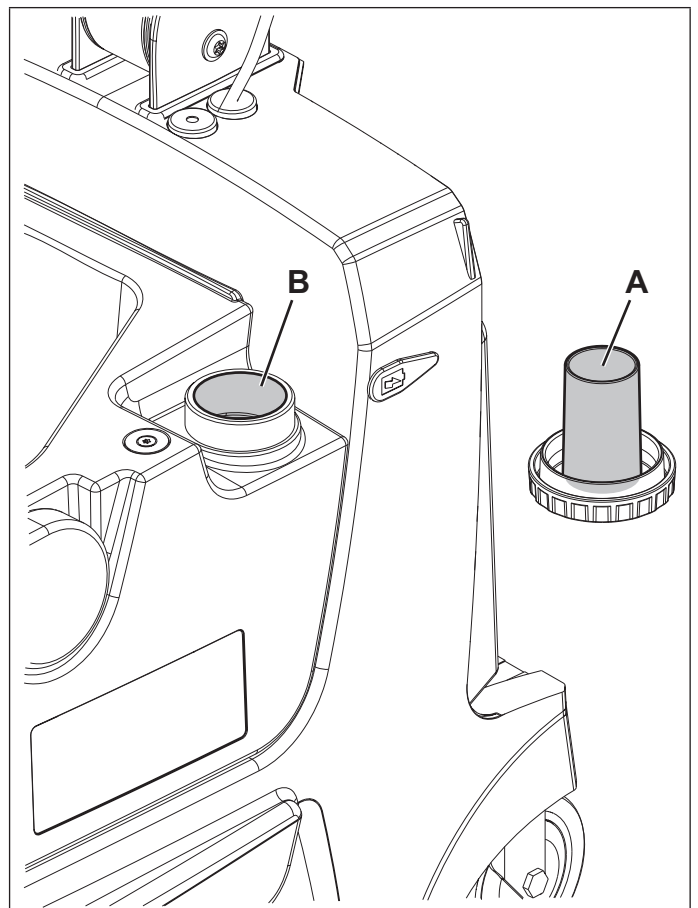

Figure 2
1. Remove the tank cover (12).
2. Remove the cap (A, Fig. 2) on the solution tank (B).
3. Fill the solution tank (B) with water, leaving a few centimetres from the top.
4. Use the measurement mark on the cap (A) to mix the solution.